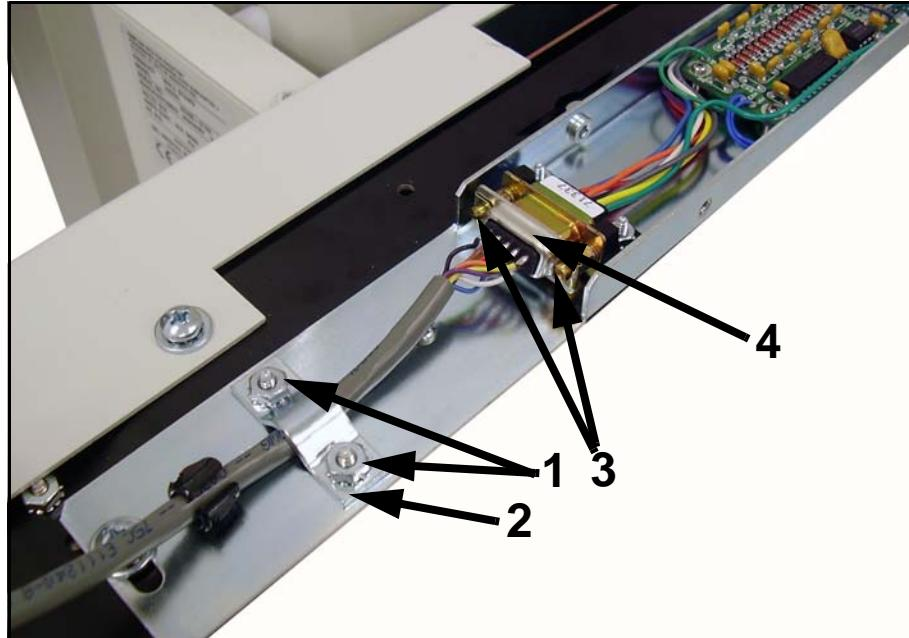

Figure 5-8. ION Chamber Screws
12 Unscrew cable clamp nuts (1 in Figure 5-8) and remove clamp (2).